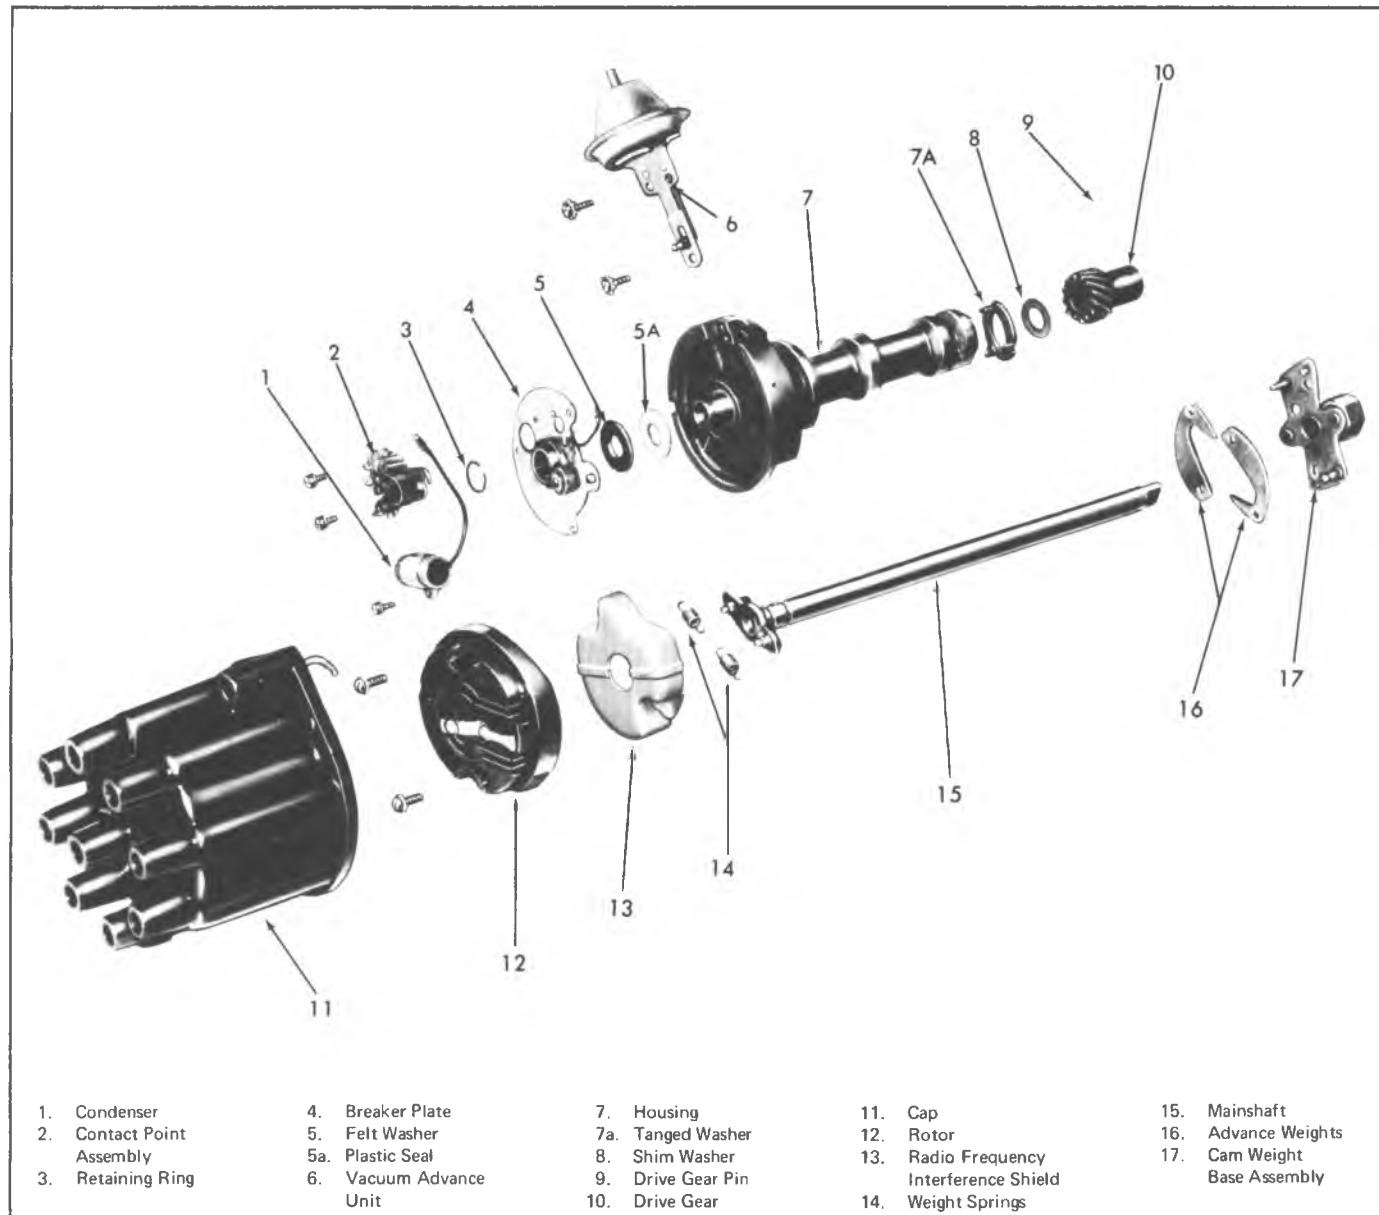

Fig. 21i—V-8 Distributor (Typical) · Exploded View
**V-8 Engines (Fig. 21i)**
**V-8 Engine—(Fig. 21i)**